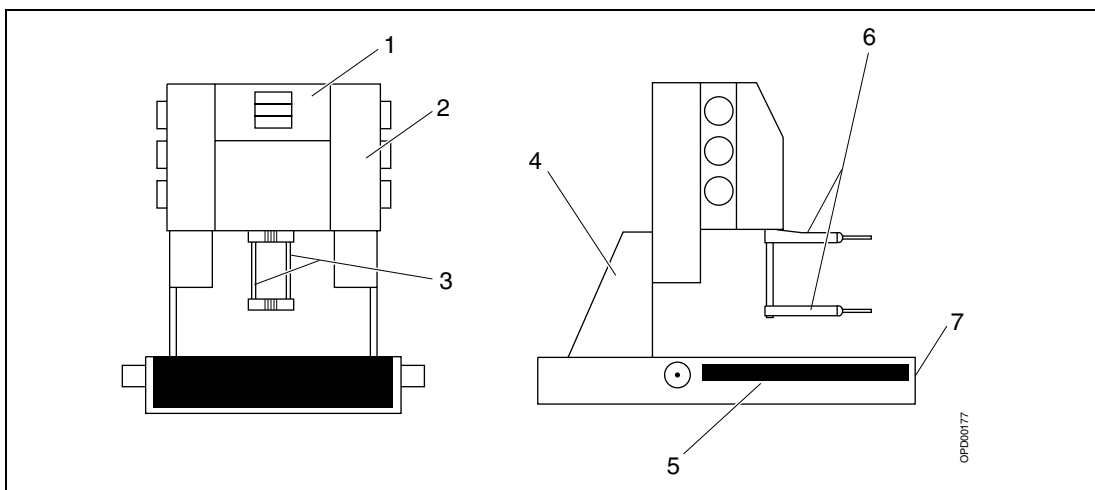

Fig. 3 Measuring points on the biopsy unit
4. Check that the switch settings on the back of the MO is right configured. (see Fig. 3, Page 6 - 3)
1. Measure the resistance between the ground connection of the stand and the measuring points on the biopsy unit according to Fig. 3. Use a sharp-pointed tool to penetrate the finishing paint. Fill in your values in the test protocol for protective earth measurement (see Appendix 2).